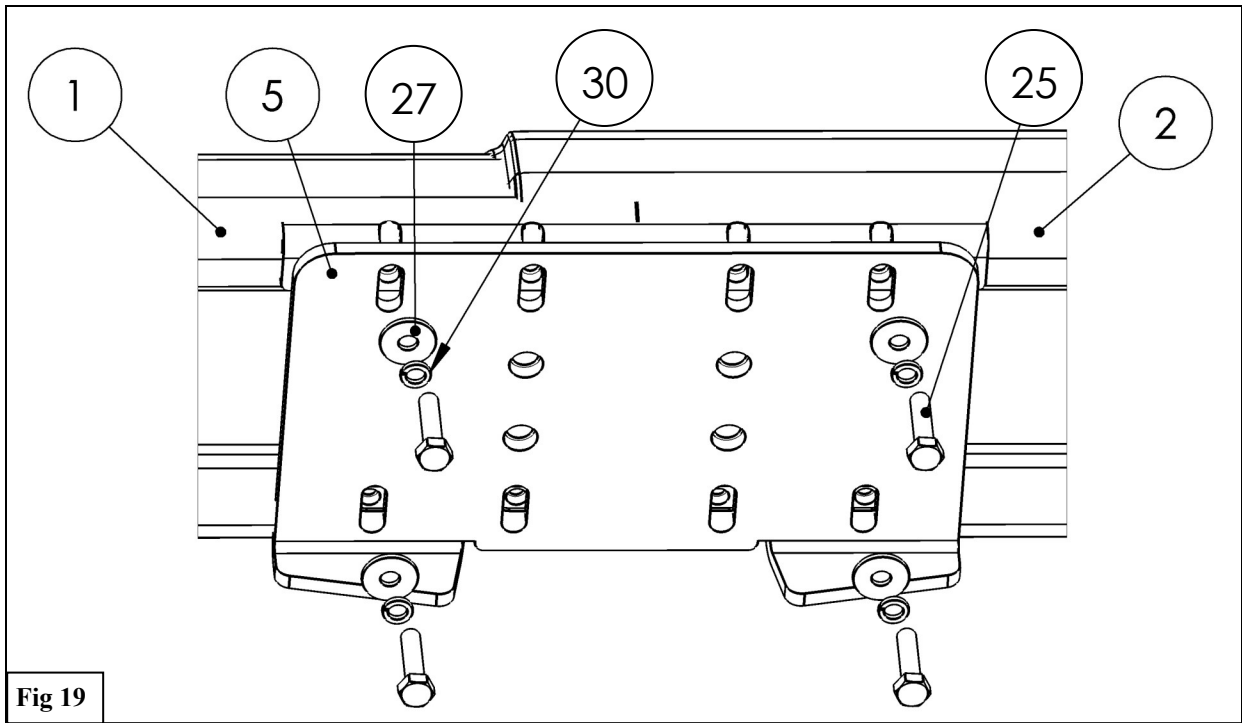

Fig 19
8. Obtain the Link Plate (5) and secure it to the Step Bar Assembly (1 & 2) using the supplied M6 Hardware. See **Figure 19**.